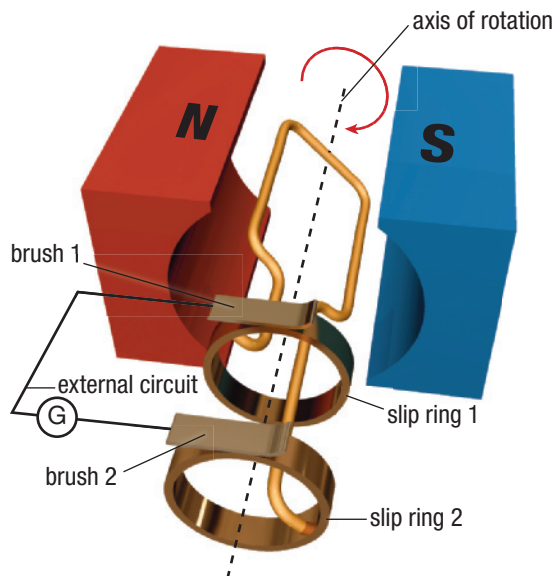

Figure 1 A single-loop AC generator
The AC generator shown in **Figure 1** shows a single loop of conducting wire set between the poles of two permanent magnets. There are two slip rings and two brushes. Each slip ring is connected to a different side of the loop. Slip ring 1 is connected to the left side of the loop, while slip ring 2 is connected to the right side of the loop. The slip rings rotate with the loop. The brushes are stationary and make contact with the slip rings to allow current to be directed out to the external circuit. The loop spins on the axis of rotation. The spinning force is provided by an external source of energy. For example, recall from Chapter 5 that at a hydroelectric power plant, the falling water turns the blades of a turbine connected to the electrical generator.
In Figure 1, the loop of the generator is being forced clockwise. Since the loop is moving inside the magnetic field provided by the external magnets, an electric current will be induced in the loop as described by Faraday's law. The direction of the induced current is predicted by Lenz's law. Remember that an induced current also creates an induced magnetic field around the loop. The induced magnetic field around the loop opposes the field that created it.
Figure 2 A cross-section view of the wire loop in the generator in Figure 1. An external source of energy moves the wire upward at the left side and downward at the right side.
Figure 3 A cross-section view of the wire loop in the generator in Figure 1. An external source of energy moves the wire upward at the left side and downward at the right side.
1. Sketch the generator shown in Figure 1 on page 599, but change the rotation to counterclockwise. Answer the following questions based on your diagram. Consider the starting angle to be 0° . **T/I C**
2. How does the rotation rate of the loop in the generator in Figure 1 compare to the frequency of the alternating current? **K/U**